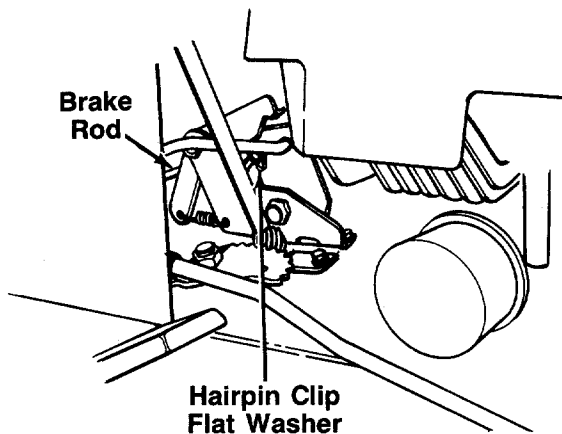

FIGURE 24.
13. Remove the belt from around the brake rod. See figure 24.